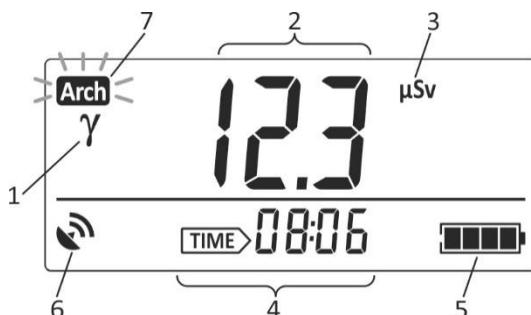

Figure 2.26 – LCD of the dosimeter
2.3.6.8.2.2 The LCD of the dosimeter displays the following in this mode (Figure 2.26):
- “ $\gamma$ ” symbol – measured radiation type (1);
- accumulated DE value (2);
- accumulated DE dimension (3);
- DE accumulation time (4);
- battery status symbol (5);
- navigation receiver status symbol (6);
- sign (7) of critical filling of the dosimeter’s nonvolatile memory, where DE accumulation history is stored (2.3.4 of this OM).